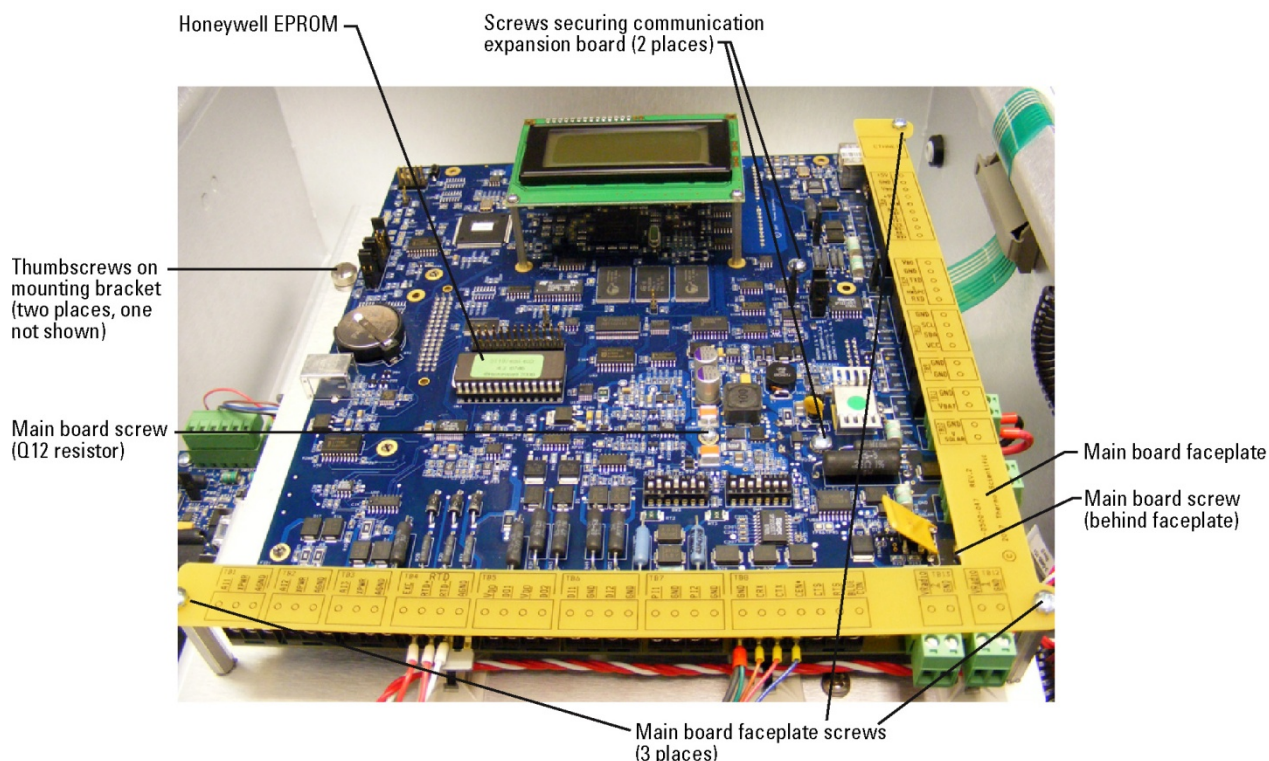

Figure 11–1. Replacing the main board, step 1
1. Open the enclosure door, and reference Figure 11–1 for these steps: